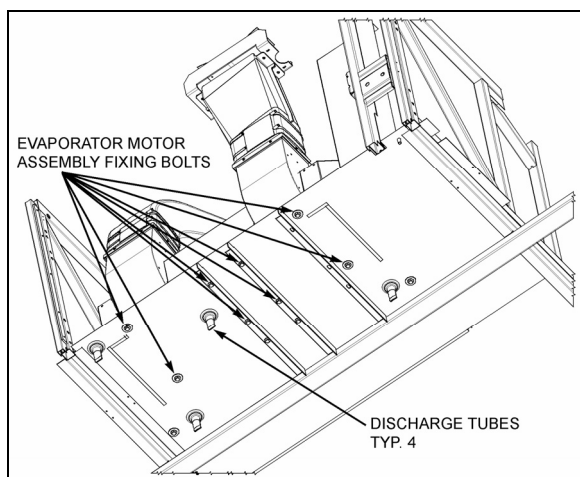

FIGURE 26: EVAPORATOR MOTOR ASSY FIXING BOLTS 22315
7. From under the vehicle, remove the eight bolts retaining the evaporator fan motor support. Remove the complete unit from the evaporator compartment (Fig. 26 & 27).